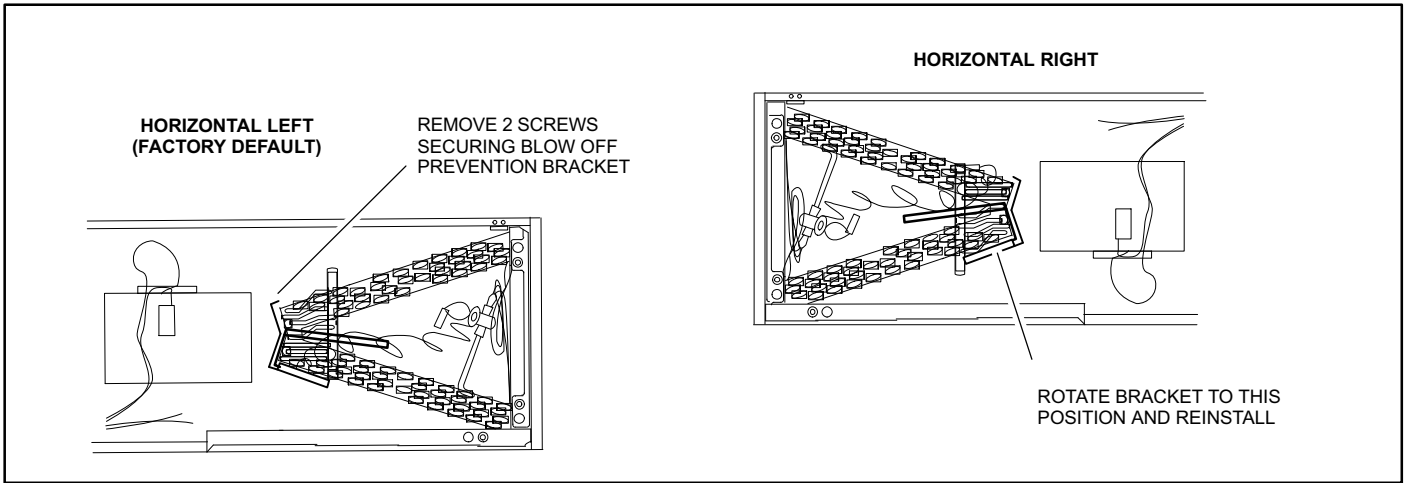

Figure 8. Blow-Off Prevention Plate
6. Remove two screws securing the blow-off prevention bracket. Rotate the brackets 180° and reinstall using the same screws. See figure 8.